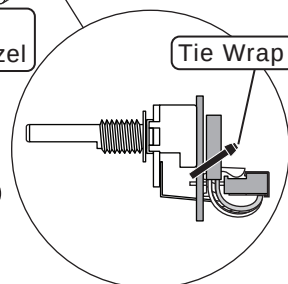

Figure 2
5. Secure the wiring harness to the rotary pot assemblies with the supplied tie wraps (See Figure 2, below).